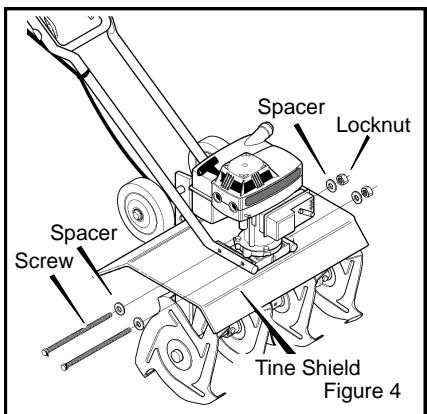

Figure 4
4. Mount a **spacer** on each screw. Push the **screws** through the **tine shield**, the **lower handle**, and half way through the engine casing (see Figure 4).
6. Push the **screws** through the engine casing, the **lower handle**, and the **tine shield**. Secure with **spacers** and **lock-nuts** as shown in Figure 4. Do not tighten at this time.
10. Tighten the **locknuts** that hold the ends of the lower handles (see Figure 4). Tighten only enough to firmly hold the handles.